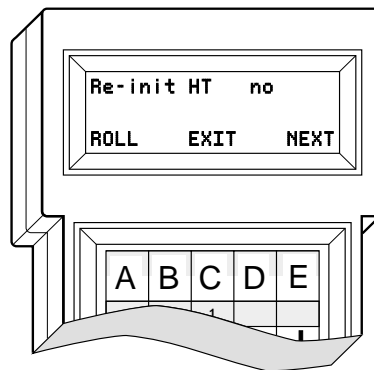

Figure 10. HHT Setup Display
1. Plug the HHT into the DIAG. connector. Enable the setup mode by pressing the **SHIFT**, **CTRL** and **SPACE** keys in sequence. The display shown in Figure 10 appears.